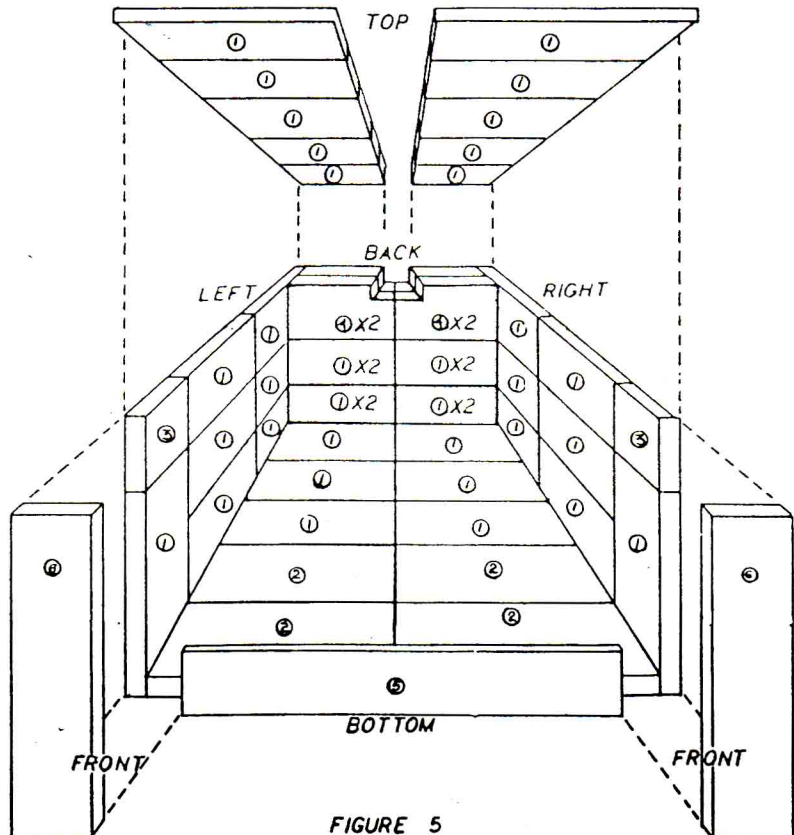

FIGURE 5
MODEL 2000 (Figure 5):
3. Install the top bricks, slipping the inside edge above the brick support and the outside edge above the top left and right side courses of brick which must now be installed simultaneously with the top bricks to hold them in place (See Fig. 5) (14 of type {1}, and 2 of type {3}).